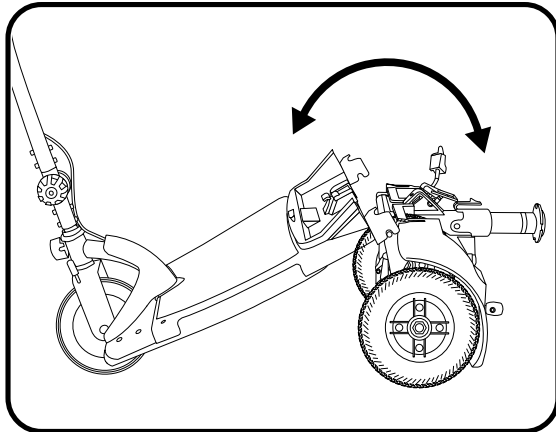

Figure 16. Frame Positioning
1. Push back on the seat post to pivot the scooter's rear section rearward until the rear section is standing vertically on its bumper. See figure 16.
2. Holding the seat post, slowly pivot the rear section forward until the curved locking brackets are fully connected onto the top rear pegs. See figure 16 and 17.